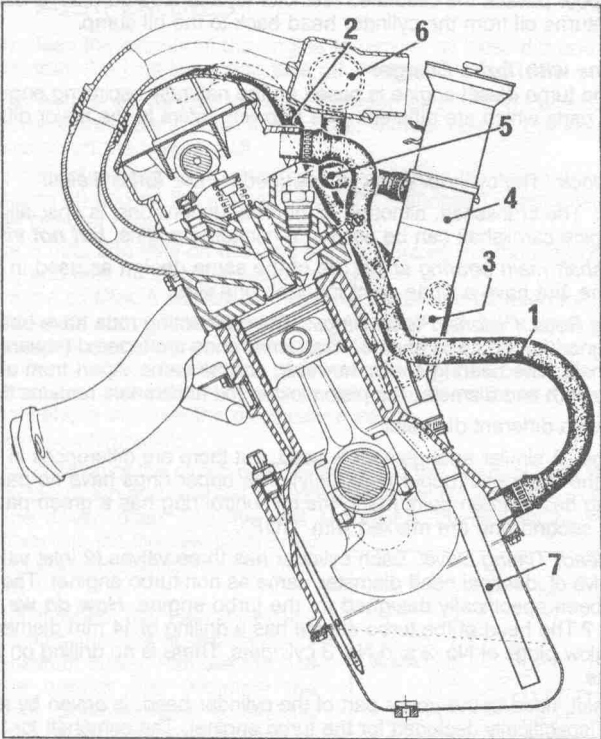

Fig. 1.9. — The crankcase vapour recycling system. The numbers are referred to in the description below.
**Crankcase Vapour Recycling System:** The vapour in the crankcase is re-routed into the combustion system. Fig. 1.9 shows how the system is arranged. It consists of the following component parts:
- The pressure balance pipe (1) connects the crankcase to the camshaft housing.
- The connection hose (2) is fitted between the oil trap and the camshaft cover vent.
- The connecting pipe (3) is fitted between the oil trap and the cylinder block connection.
- Oil filler neck, dipstick and oil trap (4) form one assembly.
- The connecting pipe (5) is fitted between the oil trap and the inlet manifold. A calibrated restriction (6) is in the inlet manifold.
- Oil filler pipe (7).
*The crankcase vapour recycling system* is arranged in the same manner as described for the non-turbo engine. Fig. 1.9 and the description on the top of this page also applies to the turbo engine.